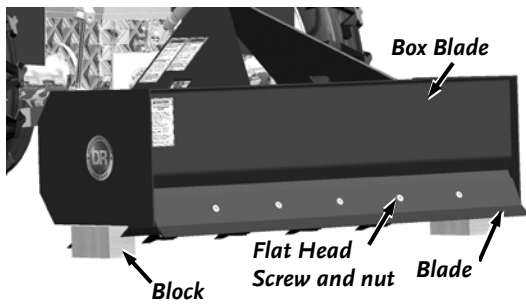

Figure 15
1. Lower the DR 60" 3PT BOX BLADE onto support blocks placed under each side (**Figure 15**), enough to lift the Box Blade Frame off the ground.